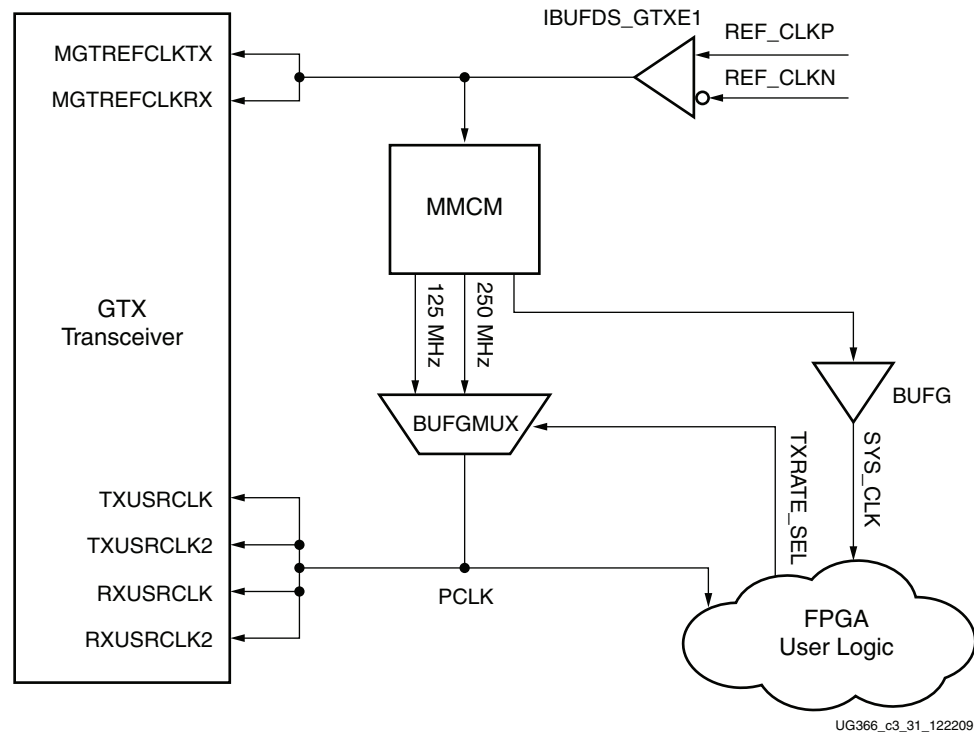

Figure 3-29: PCI Express Clocking
For PCI Express clocking, the use case is to route the reference clock from IBUFDS\_GTXE1 directly to the FPGA user logic instead of through TXOUTCLK if the TX buffer is used, as shown in Figure 3-29. However, if TX buffer is bypassed and compensation for voltage
and/or temperature variations from the global clock trees is necessary, TXOUTCLK must be used as the user clock source. See TX Buffer Bypass, page 156 for more details. In Figure 3-29, TXRATE\_SEL is an FPGA user logic control signal that selects a new PCLK frequency from the BUFGMUX (125 MHz or 250 MHz) for a rate change. PCLK is the PIPE clock for the FPGA user logic and is the parallel interface clock used to synchronize data transfers across the parallel interface.
**Note:** The IBUFDS\_GTXE1 diagram in Figure 3-29 is a simplification. The output port ODIV2 is left floating, and the input port CEB is set to logic 0.